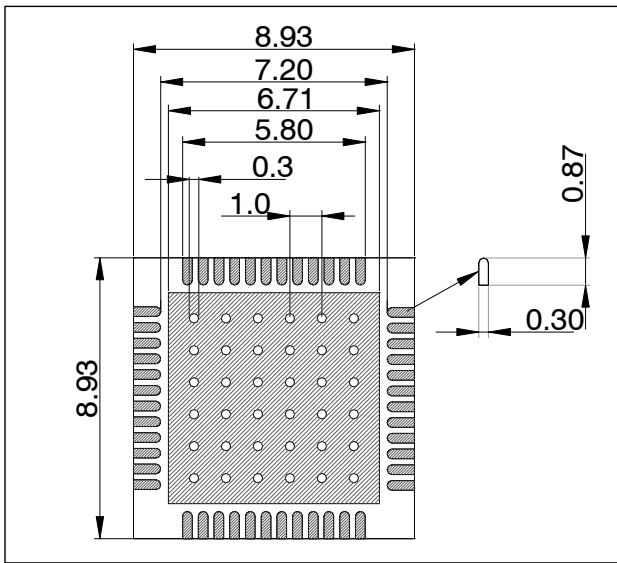
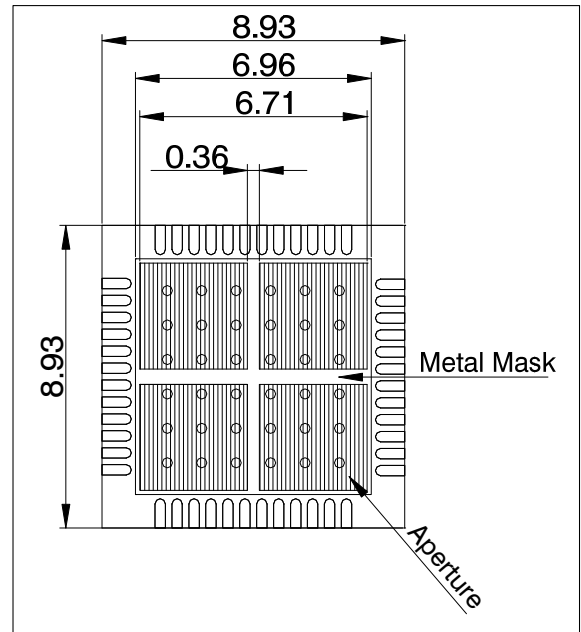
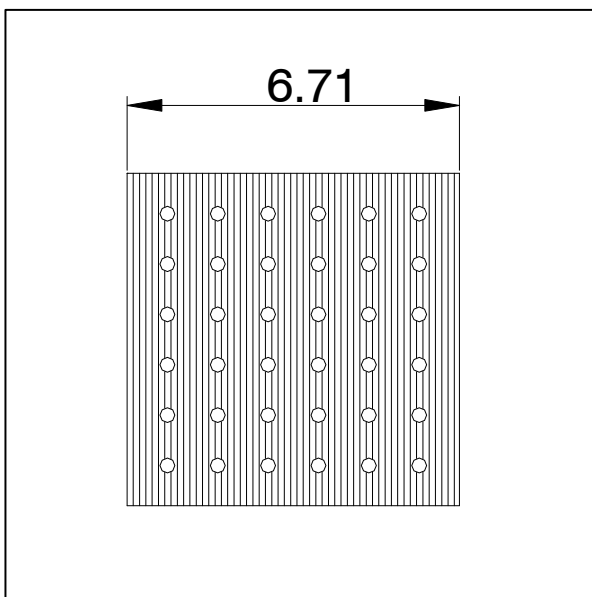
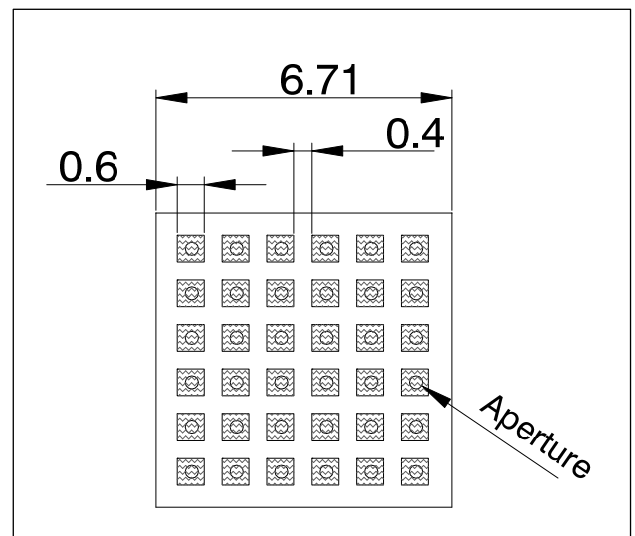

Figure 16: Thermal Pad Array Footprint (CS) (not updated)
Figure 18: Solder Printing Mask (CS) (not updated)
Figure 17: Thermal Pad Array Footprint (PS) (not updated)
Figure 19: Solder Printing Mask (PS) (not updated)
The PCB design should consider the exposed pad of the PD69108. This pad is used for thermal cooling of the package. Basically, the PCB should be designed as shown in Figure 16 - Figure 19.
See Figure 16 and Figure 17 (CS & PS) for a design layout of the recommended contact pad.
- If copper plating does not plug the vias, apply stencil print solder paste onto the printed circuit side. This provides sufficient solder paste, filling those vias to avoid the above mentioned voids. Figure 18 and Figure 19 show the associated, solder printing masks (CS & PS). The solder mask openings are lined-up in respect to the 6 x 6 thermal via array. Since large solder printing mask openings may result in poor release, the opening should be subdivided as shown in these figures.